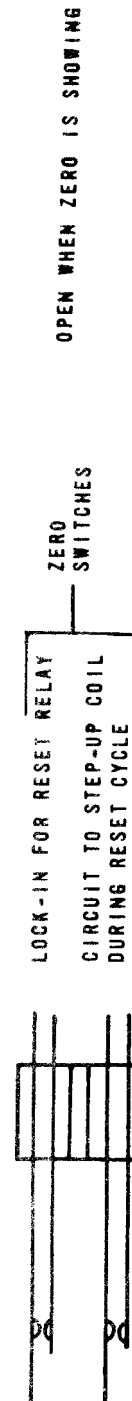

FIGURE III-4 SCORE DRUM UNIT SWITCH ASSEMBLY
5. Score Drum Unit Adjustment (See Figure III-4)